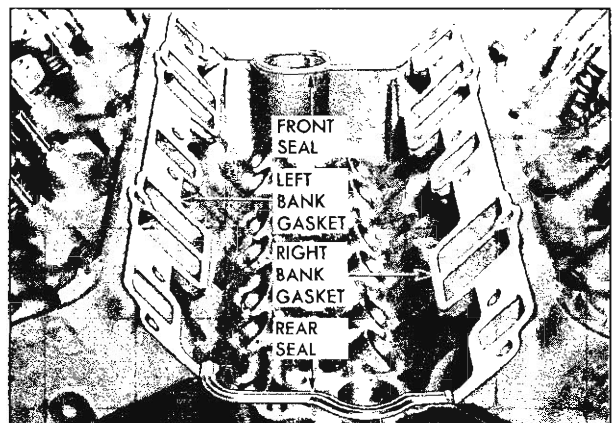

Fig. 2W—Intake Manifold Gasket and Seal Location
2. Install manifold end seals on block with tabs as shown (fig. 2W).